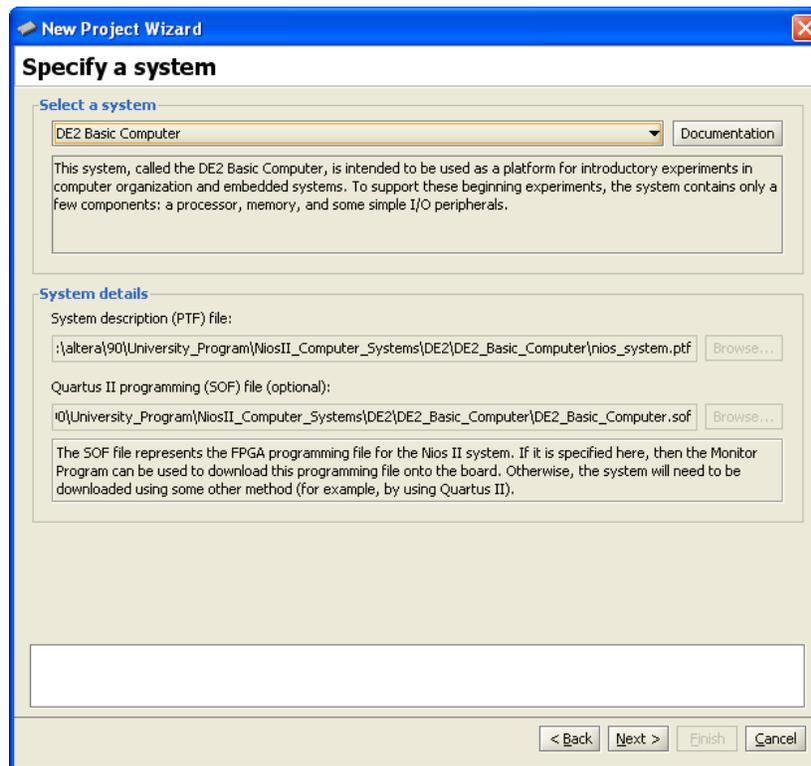
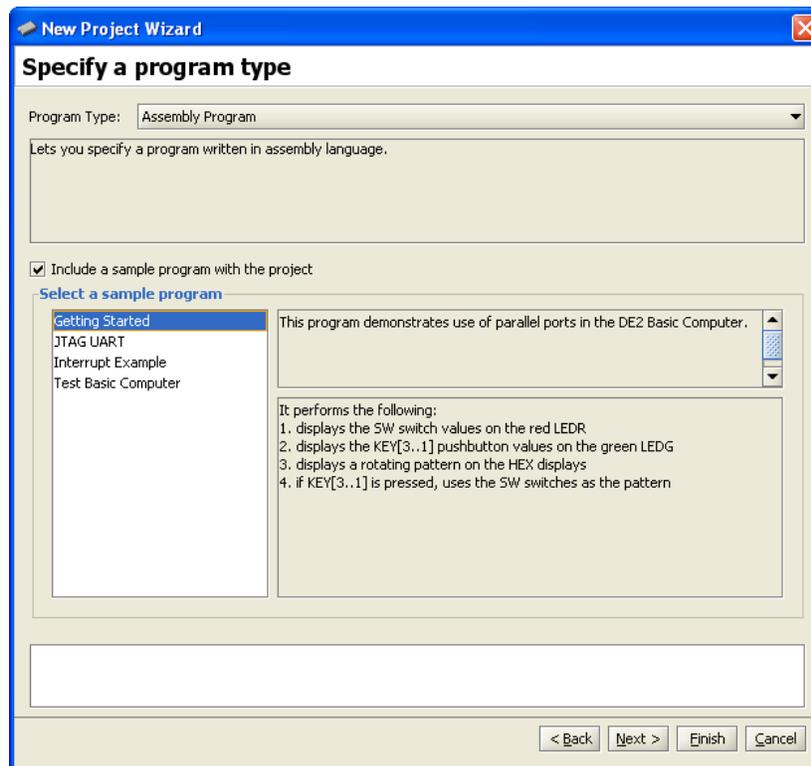
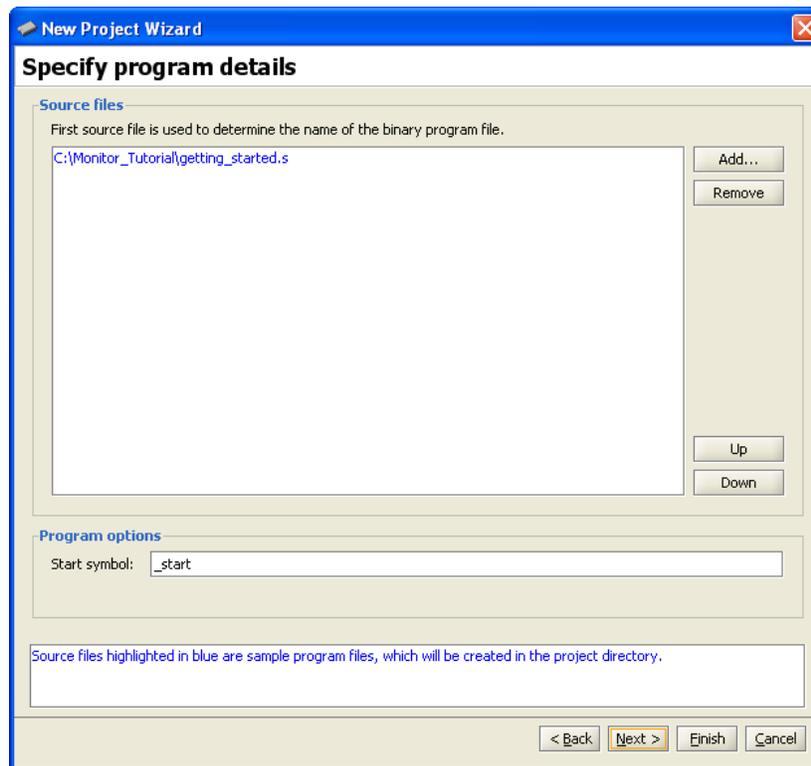

Figure 7. Specifying the Nios II hardware system.
Figure 8. Selecting a program type and sample program.
Figure 9. Specifying source code files.
2. Click **Next** to advance to the window shown in Figure 7, which is used to specify a Nios II hardware system. Nios II-based systems are described by a *.ptf* file, which is generated by the Altera SOPC Builder tool when the system is created. More information about creating systems using SOPC Builder can be found in the tutorial called *Introduction to the Altera SOPC Builder*, available in the University Program section of Altera's website. An optional *.sof* file, if specified, represents the FPGA circuit that implements the Nios II-based system; this file can be downloaded into the FPGA chip on the board that is being used.
As depicted in Figure 7, select the pre-built system named *DE2 Basic Computer*. In the top right corner of the screen there is a **Documentation** button. Clicking on this button opens a user guide that provides all information needed for developing Nios II programs for the DE2 Basic Computer, such as the memory map for addressing all of the I/O devices in the system. This file can also be accessed at a later time by using the command **Settings > System Settings** and then clicking on the **Documentation** button.
3. Click **Next** to advance to the screen in Figure 8, which is used to specify the program source files that are
For this example, set the program type to **Assembly Program**. When a pre-built Nios II computer system has been selected for the project, as we did in Figure 7, it is possible to click on the selection **Include a sample program with the project**. As illustrated in Figure 8 several sample assembly language programs are available for the DE2 Basic Computer. For this tutorial select the program named *Getting Started*. Click **Next** to advance to the screen in Figure 9. When a sample program has been selected, the source code
Figure 9 shows that it is possible to specify the label in the assembly language program that identifies the first instruction in the code. In the *getting\_started.s* file, this label is called *\_start*, as indicated in the figure.